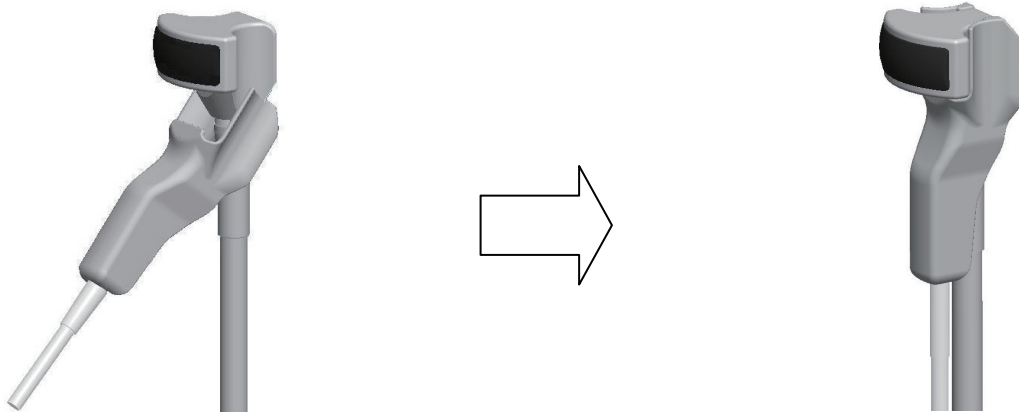

Figure 4 How to attach Magnetic Position Sensor Attachment
- (2) Attach the attachment to the probe as shown in Figure 4.